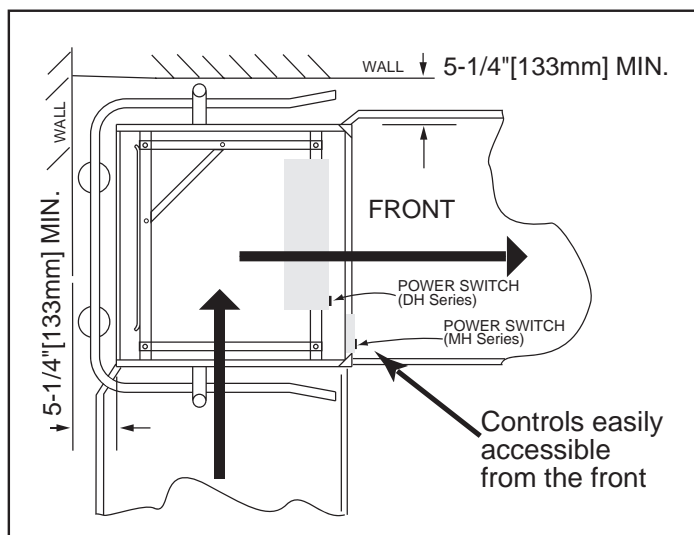

Figure 1- Machine Orientation for Corner Operation
- 4 Refer to Fig. 1 at right. Note the orientation of the machine for corner installation. Note the controls must be accessible from the front. Plan your relocation accordingly.